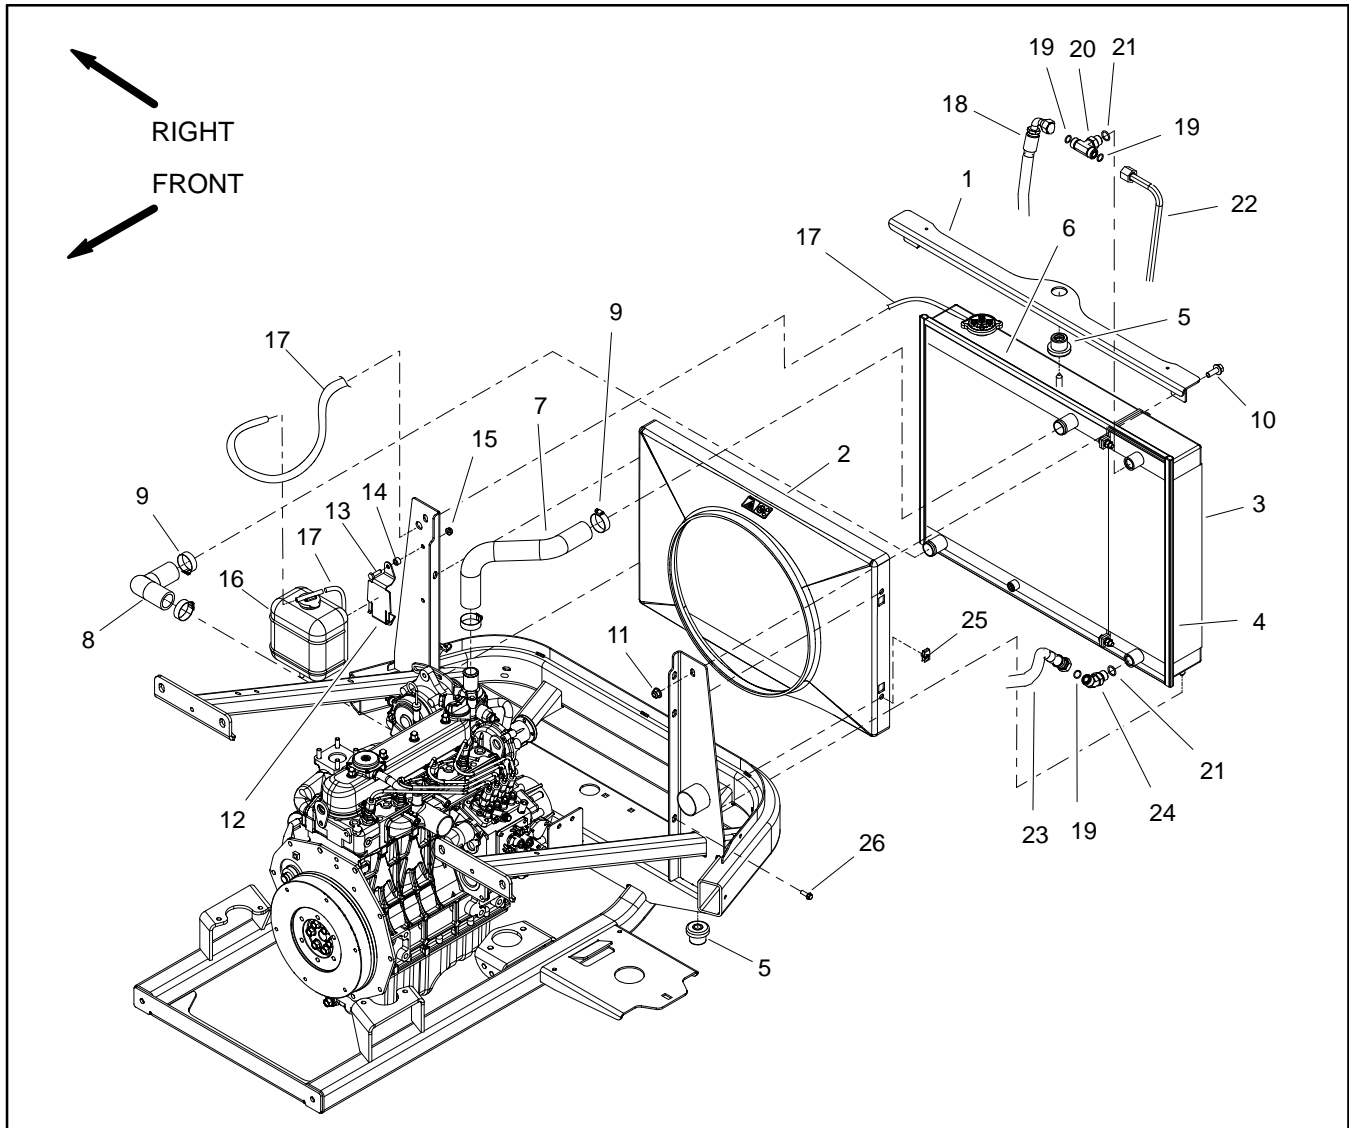

Figure 7
## Removal (Fig. 7)
**Installation (Fig. 7)**